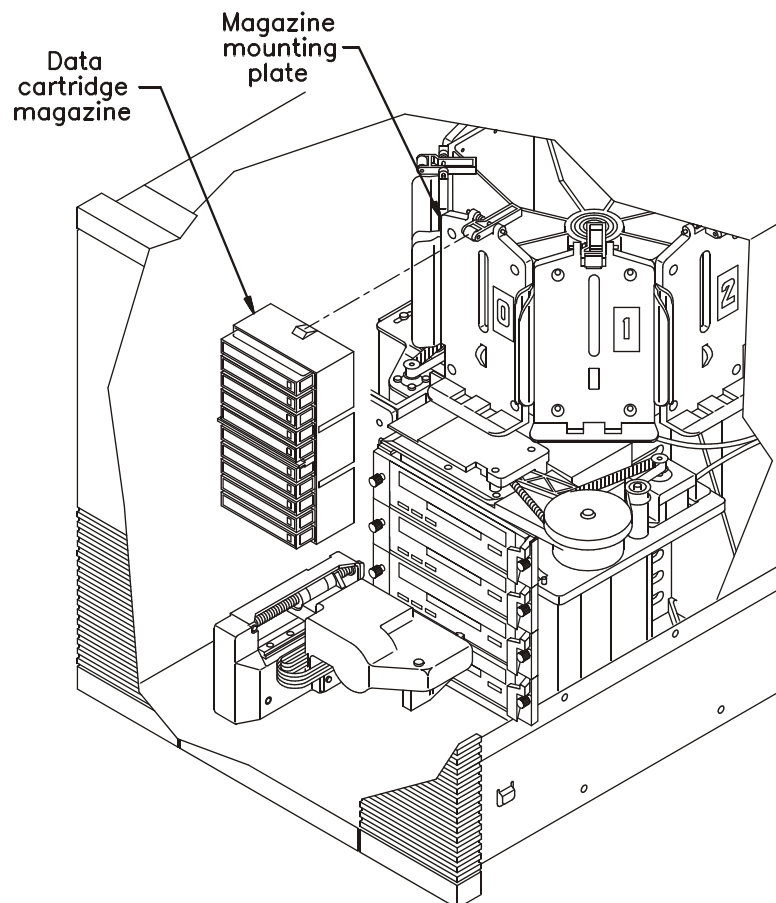

Figure 1-14 Installing a cartridge magazine in the library
3. Make sure the cover is removed from the magazine and position the magazine over the mounting plate with the single mounting guide toward the top, as shown in Figure 1-14.